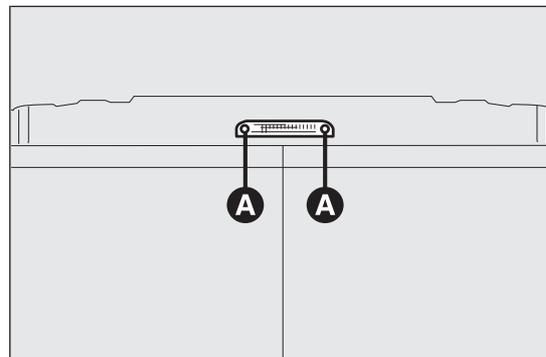

fig. 204
- undo the two fixing screws fig. 204;